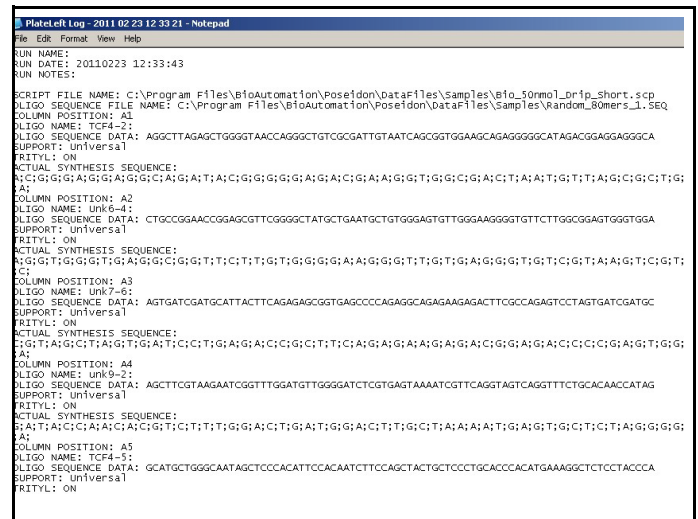

Figure 1
- **Block Log:** File records information about all events pertaining to synthesis for specific plate including data about oligo sequence, name, synthesis protocol and all injection and reaction time. (Figure 1) Logs are located at C:\Users\Public\Documents\BioAutomation\Poseidon\Logs
Example of Plate Log (Figure 1).